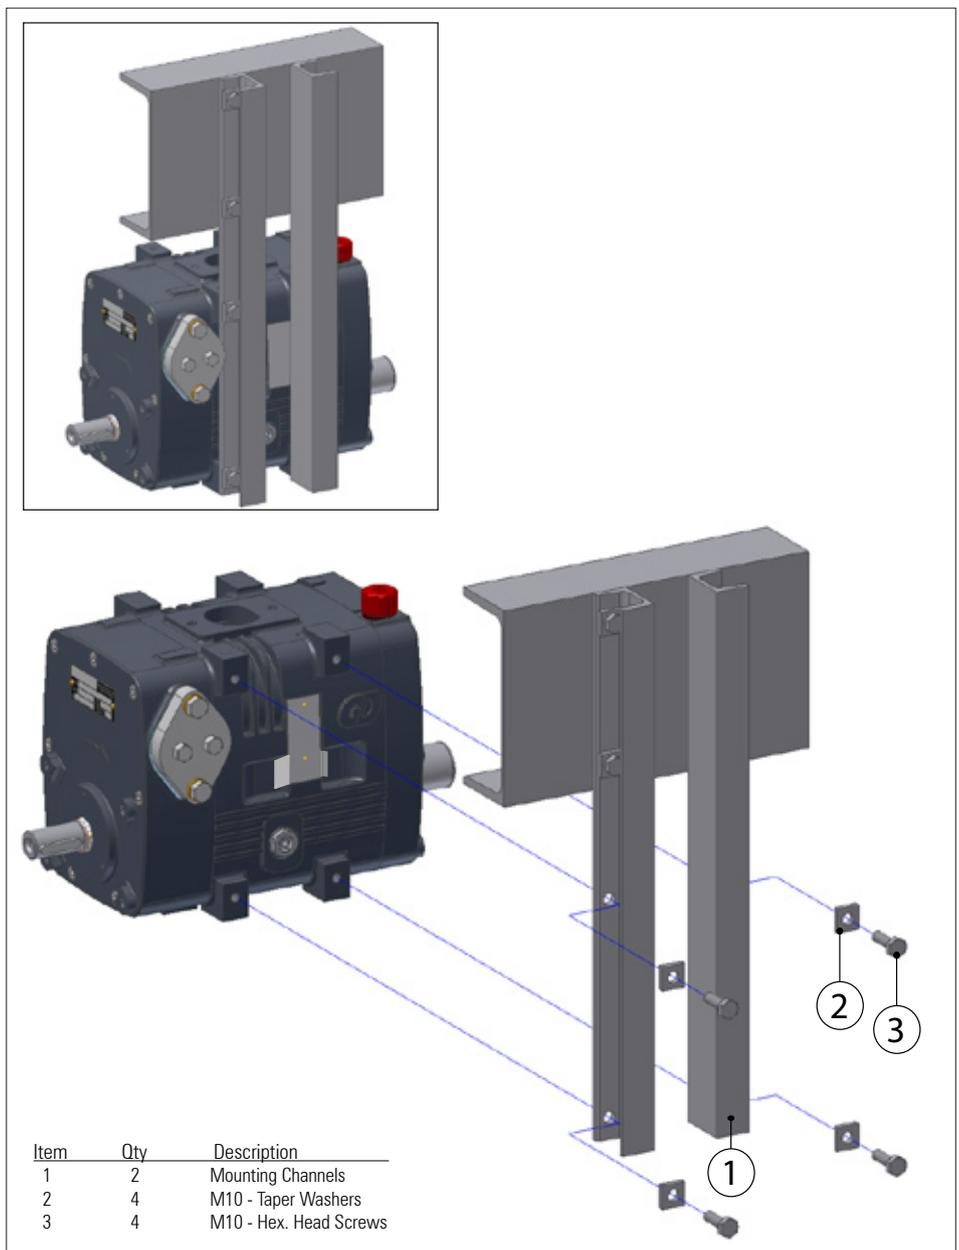

Figure 2b. Mounting Details
- The machine should be mounted to the truck frame using mounting channels (Fig. 2b/1). Alternatively a specially made bracket can be manufactured to support the compressor.
- The fastening points should be in one plane (Fig. 2b/1).